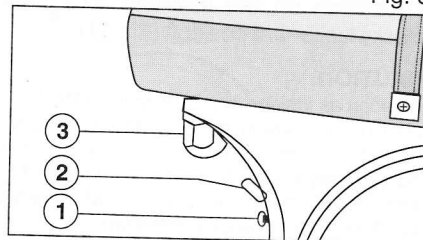

Fig. 9
**Choke knob** (Fig. 9) : Located below the fuel cock. To be used for starting the engine when it is cold. Pull the choke knob outwards for operation. It should be pressed back when the engine has started running normally.